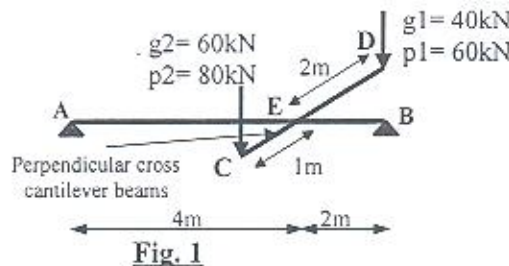

Fig. 1
- c. Draw the B.M.D, S.F.D and T.M.D for the main beam AB shown in Figure 1 at critical cases (neglect the beam own weight), $g =$ dead load, $p =$ live load. (6Marks)